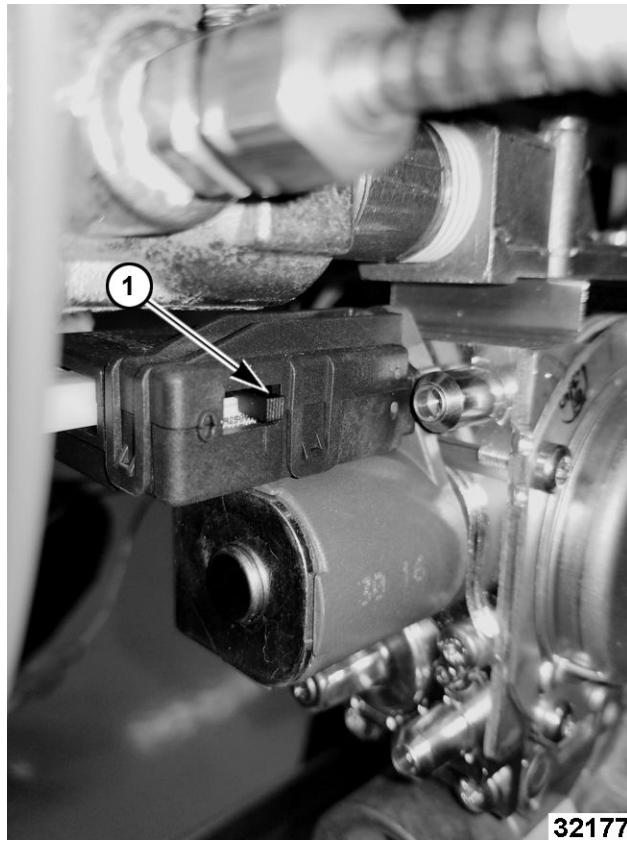

Fig. 11
9. Check solenoid on/off switch to verify it is in the **ON** (1, Fig. 11) position.